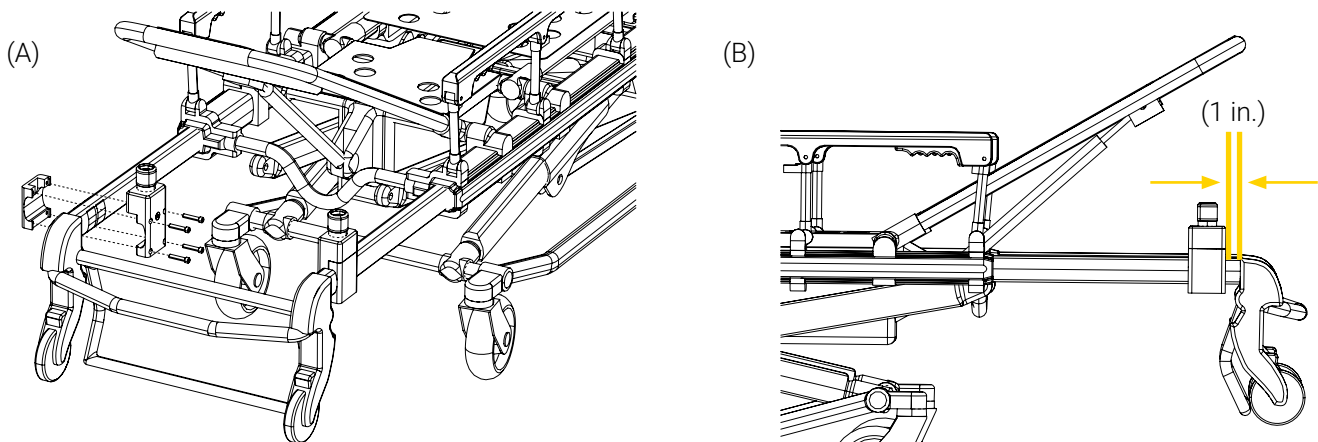

Figure 38: Installing the clamp blocks for the push bars at patient head end
3. Partially tighten the exterior part of the clamp block on the outside of the stretcher frame and the interior part of the clamp block on the inside of the stretcher frame, using four (4) flat head hex drive screws 1/4 - 20 X 1 in. and an Allen key 5/32 in. (Figure 38 A).
4. Leave a 1 in. gap between the clamp block and the end of the stretcher, then tighten the four (4) screws using an Allen key 5/32 in., alternating the screw heads (Figure 38 B).